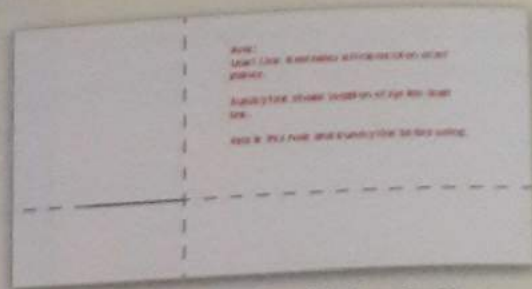

Figure 14: Family file
2. Delete the note and detail line after reading. (Figure 14)